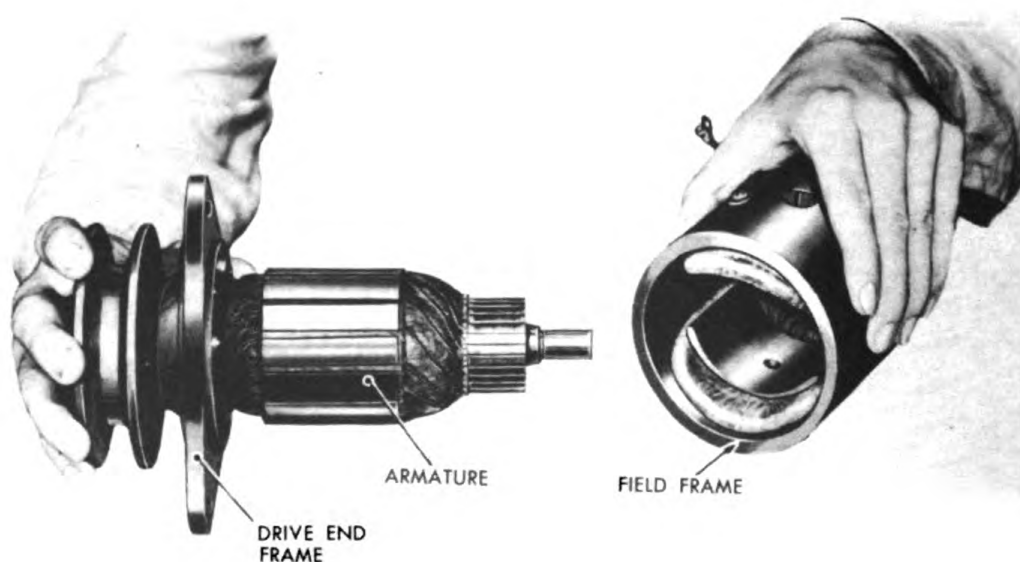

Figure 254. Removing Drive End from Field Frame.
- d. Detach the field frame from the drive end frame again using the lead hammer if necessary. See figure 254.
- c. To attach the field frame, align the dowel and holes and place the field frame in position on the drive end frame, align the dowels. See figure 254.